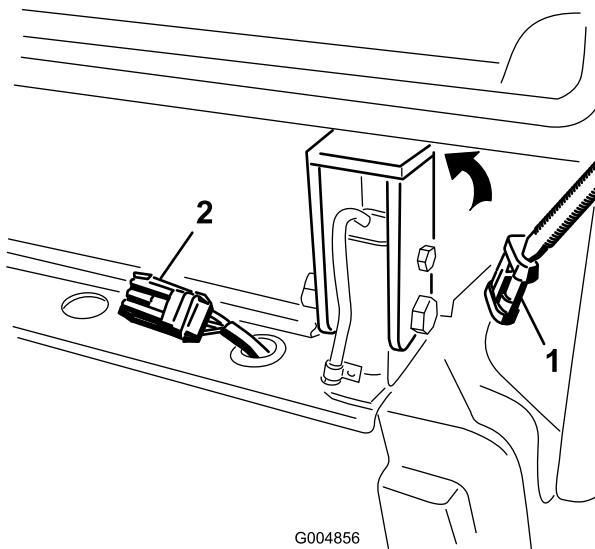

Figure 36
27. Remove the cap and plug the cab wire harness connector into the harness on the rear frame mount (Figure 36).